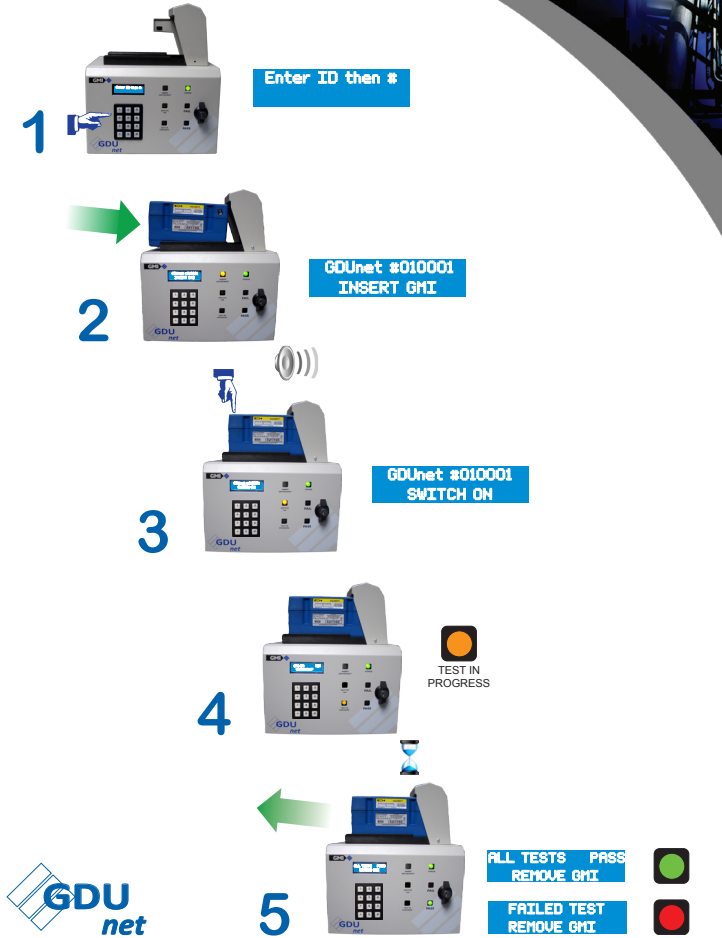

Fig. 5-13 GDUnet with Keypad - Quick Operation Guide
5. The procedure for the testing or calibrating of an instrument is illustrated in Fig. 5-12. The test procedure shows each step taken during the testing of an instrument from inserting onto the GDUnet until the removal of the instrument. The test procedure for the keypad version of the GDUnet is illustrated in Fig. 5-13.